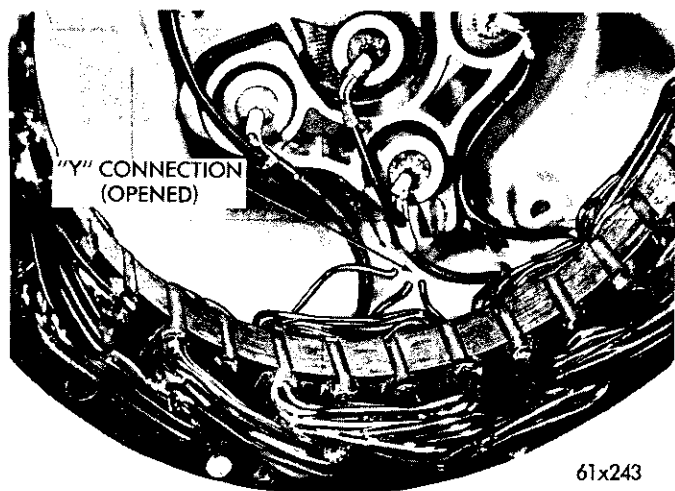

Fig. 36—Separating the Three Stator Leads
(1) Separate the three (3) stator leads at the "Y" connection. (See Fig. 36.)
(2) Test the rectifiers with a 12 volt battery and a test lamp equipped with a number 67 bulb (4 candle power) as follows: